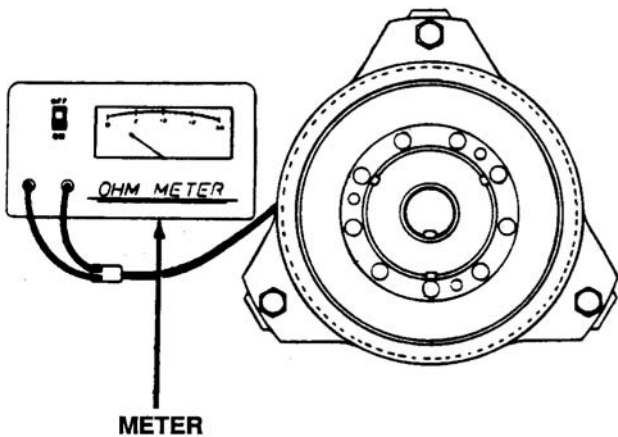

Figure 3-73. Measuring Clutch Coil Resistance
4. Connect meter lead wires to the wires in the clutch connector. See Figure 3-73.